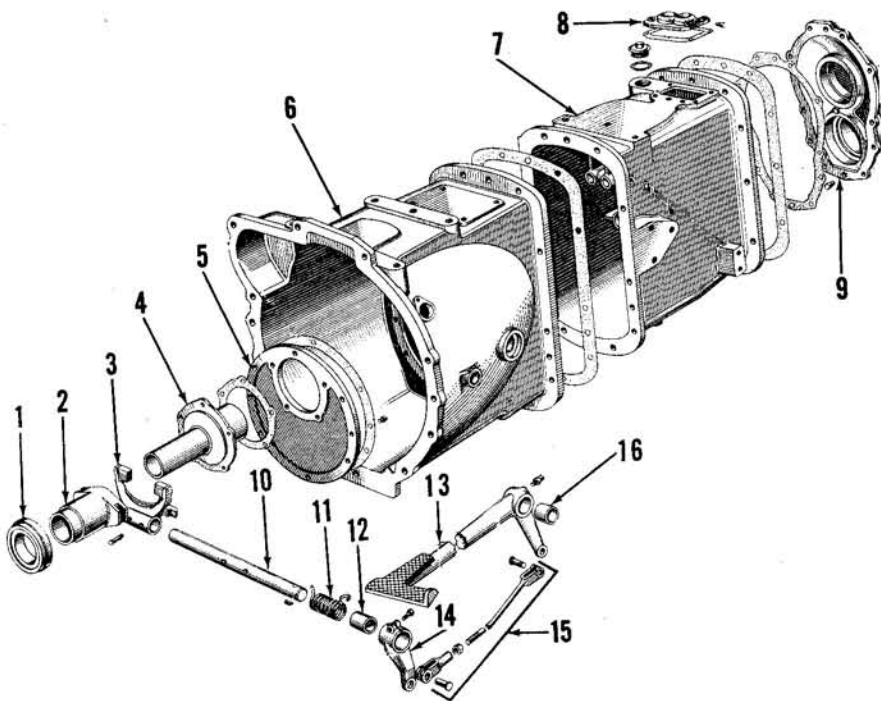
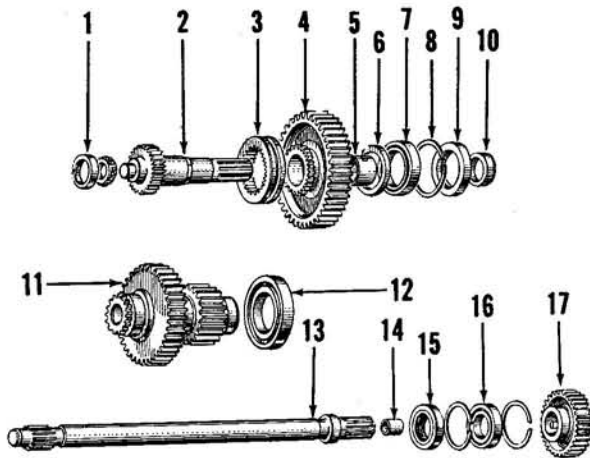

Fig. FO545A—Exploded view of transmission housing and clutch release mechanism.
Fig. FO546—Exploded view of secondary transmission and pto counter shaft assembly.
Disconnect the clutch release rod (15—Fig. FO545A) from release shaft arm (14) and unhook return spring (11) from release fork. Rotate release shaft forward and withdraw clutch release bearing (1) and hub (2). Remove the two pins securing release fork (3) to shaft (10) and withdraw shaft, fork and return spring from housing.
61. **FRONT HOUSING AND INPUT SHAFT.** To remove the transmission front housing (6—Fig. FO545A) and input (clutch) shaft, first detach (split) the engine from clutch housing as outlined in paragraph 56, and remove fuel tank, steering gear and instrument panel as outlined in paragraph 60. Disconnect clutch release rod (15—Fig. FO545A), unhook return spring (11) and rotate release shaft forward to remove release bearing (1) and hub (2). Remove the two pins securing release fork (3) to shaft (10) and withdraw fork, release shaft and return spring from the transmission housing. Remove the cap screws securing adapter plate (5) to the transmission front housing and withdraw adapter plate and input shaft retainer as a unit from the transmission. Note: Pto input shaft will be removed with adapter plate and retainer on live pto models.
**62. PTO COUNTERSHAFT AND REAR COVER.** To remove the pto countershaft and transmission rear cover, first remove the transmission as outlined in paragraph 60 and the transmission front housing as outlined in paragraph 61. On models without live pto, remove the snap ring from the front of the pto countershaft and withdraw pto coupling (22—Fig. FO547). If the pto countershaft (13—Fig. FO546), pto countershaft rear bearing (16), seal (15) or hydraulic pump drive gear (17) are to be renewed, remove the gear shroud, the snap ring from rear of pto countershaft and withdraw the hydraulic pump drive gear. Unbolt and remove transmission rear cover plate (9—Fig. FO545A) with pto countershaft attached. If necessary, tap the transmission output shaft (2—Fig. FO546) forward as the plate is removed, to free bearing (7) from the rear cover. The output shaft and transmission countershaft, with rear carrier bearings attached, will remain in the transmission housing as the rear cover is removed.
The secondary transmission can be disassembled after removing transmission as outlined in paragraph 60, and rear cover as outlined in paragraph 62. To disassemble, withdraw the secondary countershaft (11—Fig. FO546) far enough to free the front carrier bearing from its location in the housing and lower the countershaft to the bottom of transmission housing. Withdraw the output shaft assembly (2)